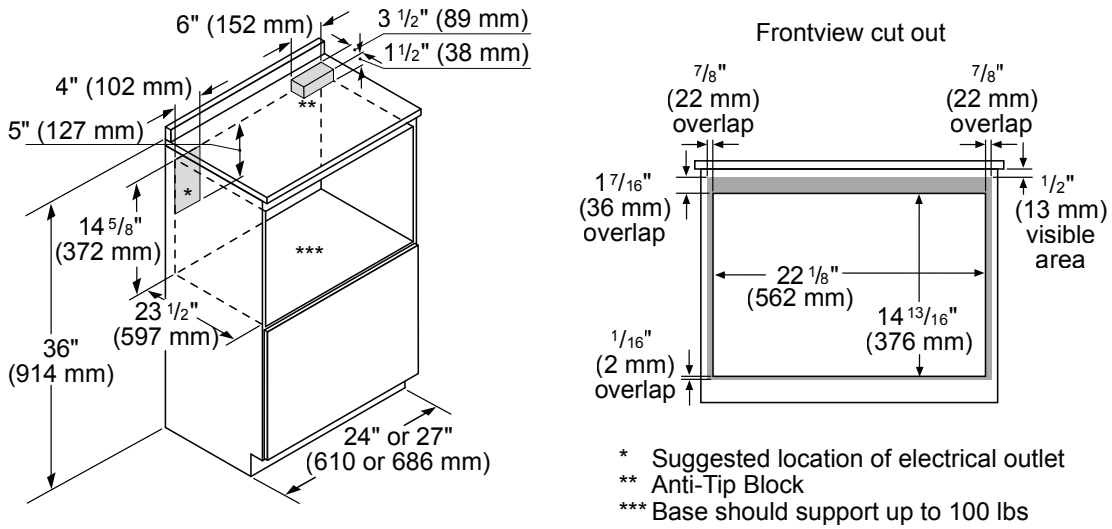
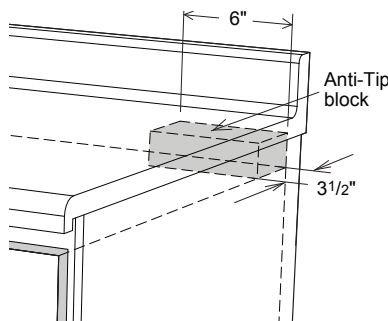
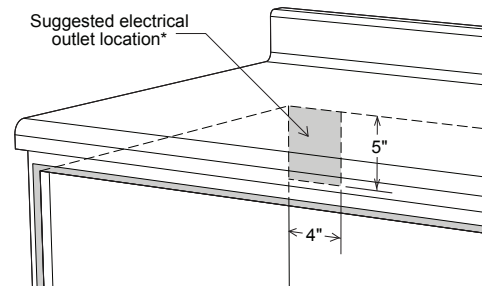

Figure 3
Figure 5
Figure 6
- For safety considerations, do not install Microwave Built-in Drawer in any combustible cabinetry which is not in accord with the stated clearances and dimensions in the "Microwave Built-in Drawer Measurements" section following. See Figure 3 (standard installation) or Figure 4 (flush installation).
- Dimensions that are shown in Figure 3 (standard installation) or Figure 4 (flush installation) must be used. Given dimensions provide minimum clearance. Locate electrical outlet in the shaded area in the upper left-hand corner of the cutout. See Figure 6.
The anti-tip block reduces the risk of drawer tipping when installed properly. Install the anti-tip block 14 13/16 inches above the installation opening floor (where the unit will sit) for a standard installation or 14 5/8 inches for a flush installation. The 6-inch Anti-Tip block must be provided by the installer. See Figure 3 (standard installation) or Figure 4 (flush installation) and Figure 5. The Anti-Tip block prevents serious injury that might result from spilled hot liquids.